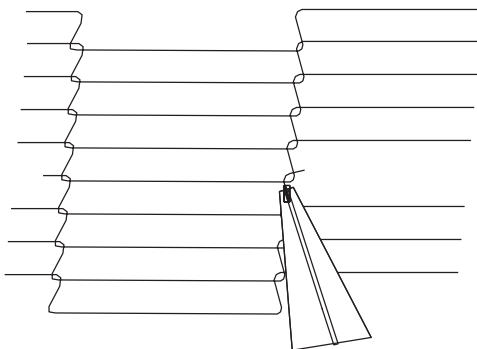

Figure 4-25
2. Using long nose pliers, unhook master links at left end of conveyor as shown in Figure 4-25.